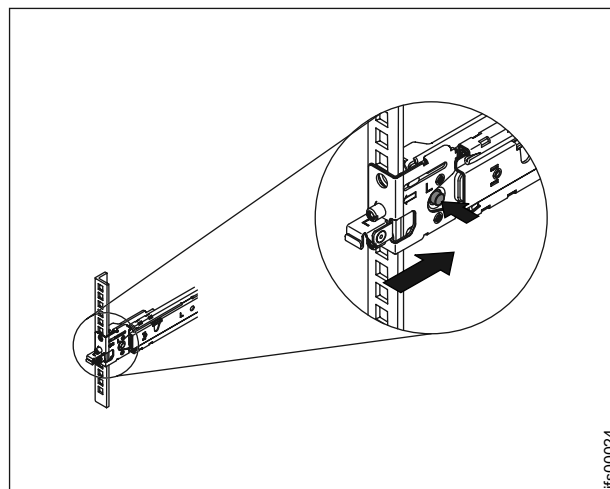

Figure 40. Install the front end of the slide rails
7. Press the blue button to release the bracket. Push the front latch in all the way. Make sure the latch is fully engaged. Refer to Figure 40.